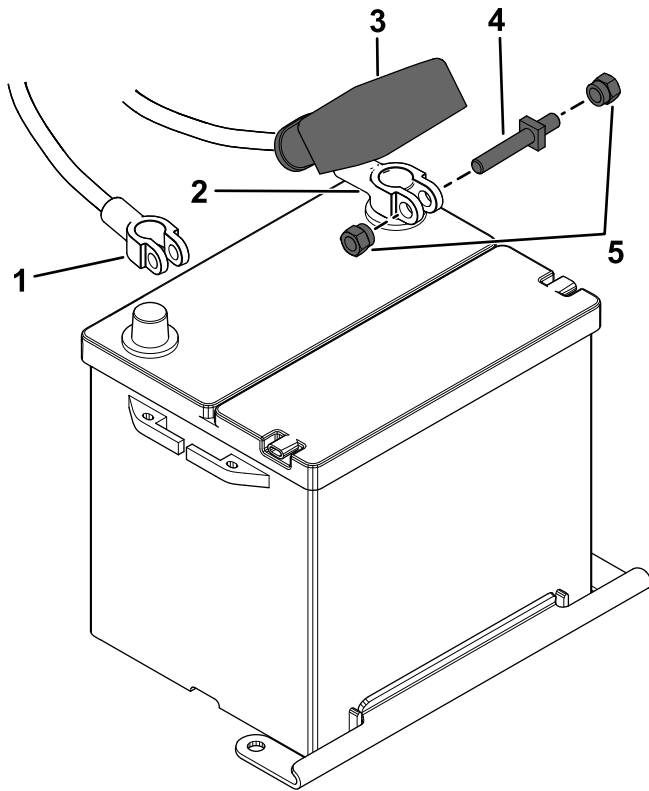

Figure 107
1. Disconnect the battery cables (Figure 107).
2. Connect the battery cables (Figure 107).